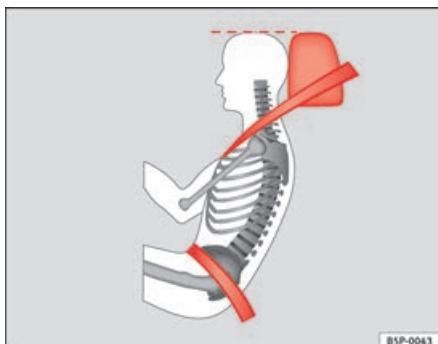

Fig. 14 Correct belt web and head restraint positions, viewed from side
- The lap part of the seat belt must lie across the pelvis, never across the stomach. The seat belt must lie flat and snugly on the pelvis ⇒ fig. 14. Pull the belt tight if necessary to take up any slack.